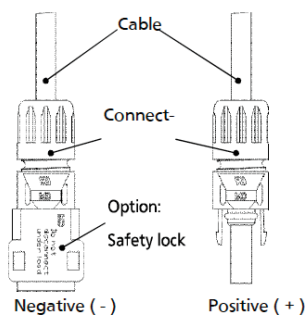

Figure 2. Connectors
- To ensure connector compatibility and reduce the potential for damage to the modules and the wider installation, the connectors used on the EverVolt modules are detailed in the Figure 2. Only permitted the mating of factory-installed connectors to connectors of the same manufacturer, type, and system rating as shown in the table below (Table.2).
Once a module is secured in each of the 4 zones (fig. 2), additional clamps, i.e., ≥5 may be freely located on panel frame without affecting the warranty. Loads marked with a * were not certified as part of UL 61730 testing; these have been evaluated by internal testing process.